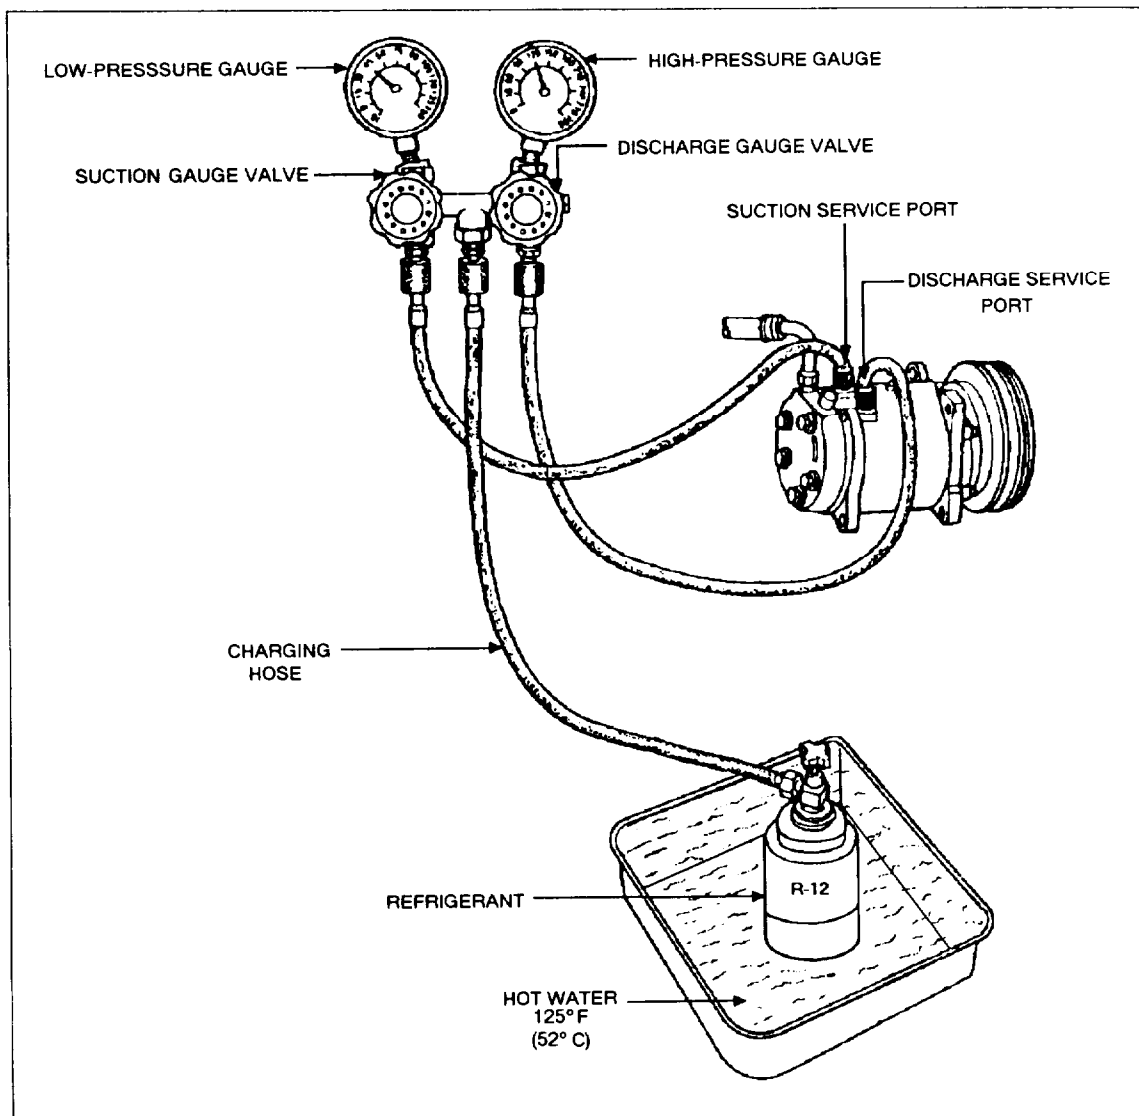

Figure 13-2.—Warming the refrigerant by using hot water.
- Use hot water (fig. 13-2) or rags saturated with water at temperatures not to exceed 125°F when refrigerant containers must be warmed for system charges.